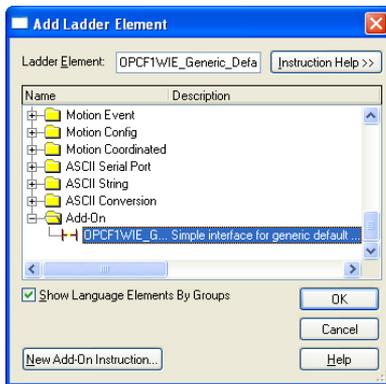

Figure 91: Add Generic Default AOI
- 8) Select the generic default I/O AOI in the Add-On folder. Refer to Figure 91.